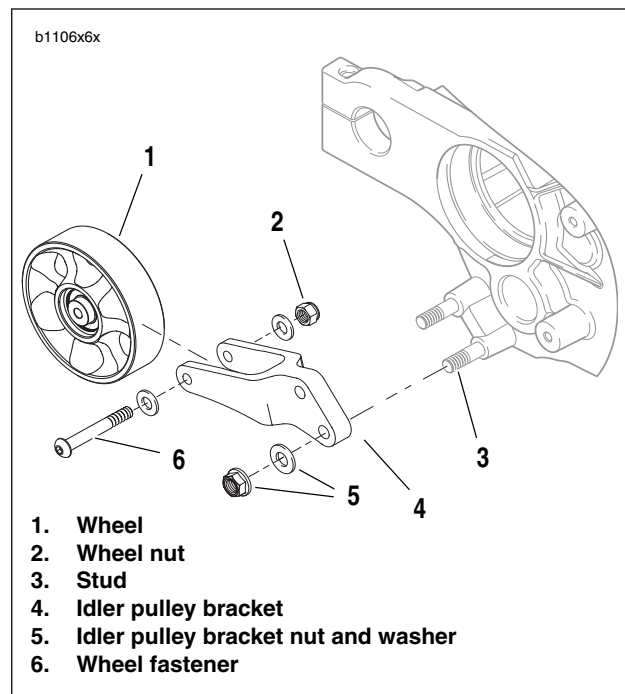

Figure 6-45. Idler Pulley Assembly
5. See Figure 6-45. Remove idler pulley bracket nuts and washers (5) from studs (3).
6. Slide idler pulley bracket (4) off studs (3).
7. See Figure 6-45. Inspect pulley by spinning wheel (1) and checking for wheel bearing wear. See INSPECTION under 1.11 DRIVE BELT.
8. If pulley wheel needs replacement, remove fastener (6), washer and nut (2) from idler pulley bracket (4) and discard wheel. Replace with **new** pulley wheel (1).
1. See Figure 6-45. Install new or existing pulley wheel (1), if removed, and tighten washer and nut (2) wheel fastener (6) to 20-23 ft-lbs (27.1-31.2 Nm).
2. Slide idler pulley bracket (4), washer and nuts (5) on to studs (3) and tighten to 33-35 ft-lbs (45-47 Nm). See DRIVE BELT INSTALLATION.